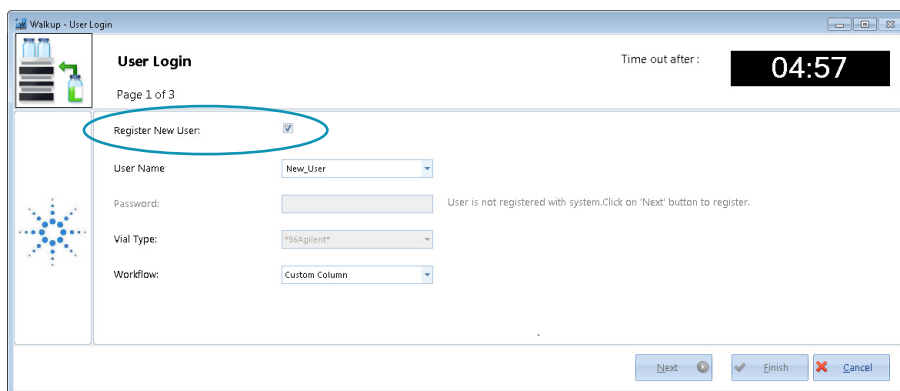

Figure 17 Register New User option in the User Login (Page 1 of 3)
- a Mark **Register New User** (see Figure 17).